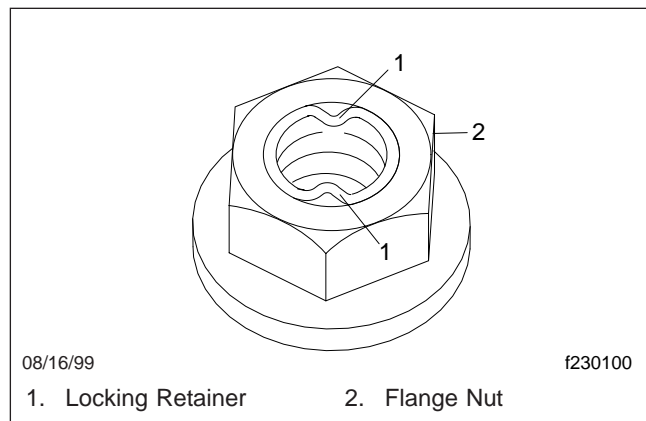

Fig. 4, Companion Flange and Locking Retainer
10. Remove the companion flange nut and slide the companion flange off the output shaft of the transmission. See Fig. 4. Discard the O-ring and the companion flange nut.
17. Install the companion flange. Lubricate a new O-ring with a small amount of ATF. Tighten the flange nut 140 lbf·ft (190 N·m). Bend the retainer to lock the nut in place as shown in Fig. 4.